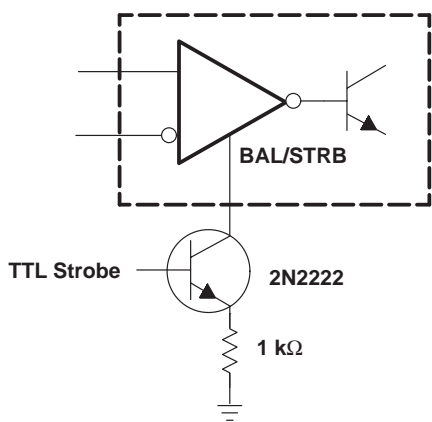

Figure 13. Strobing
6. The strobe should not be shorted to ground; it should be current driven at  $-3\text{ mA}$  to  $-5\text{ mA}$  (see Figures 13 and 27).
6. The strobe should not be shorted to ground; it should be current driven at -3 mA to -5 mA (see Figures 13 and 27).